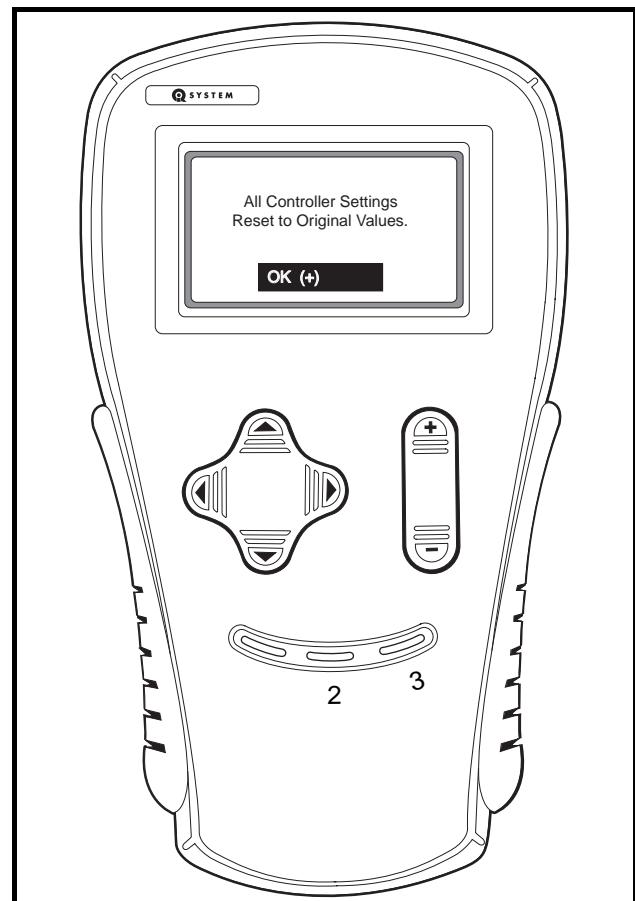

Figure 12-6 Confirmation Message
6. When the handset is finished resetting the speed controller settings, a confirmation message is displayed (**Figure 12-6**).